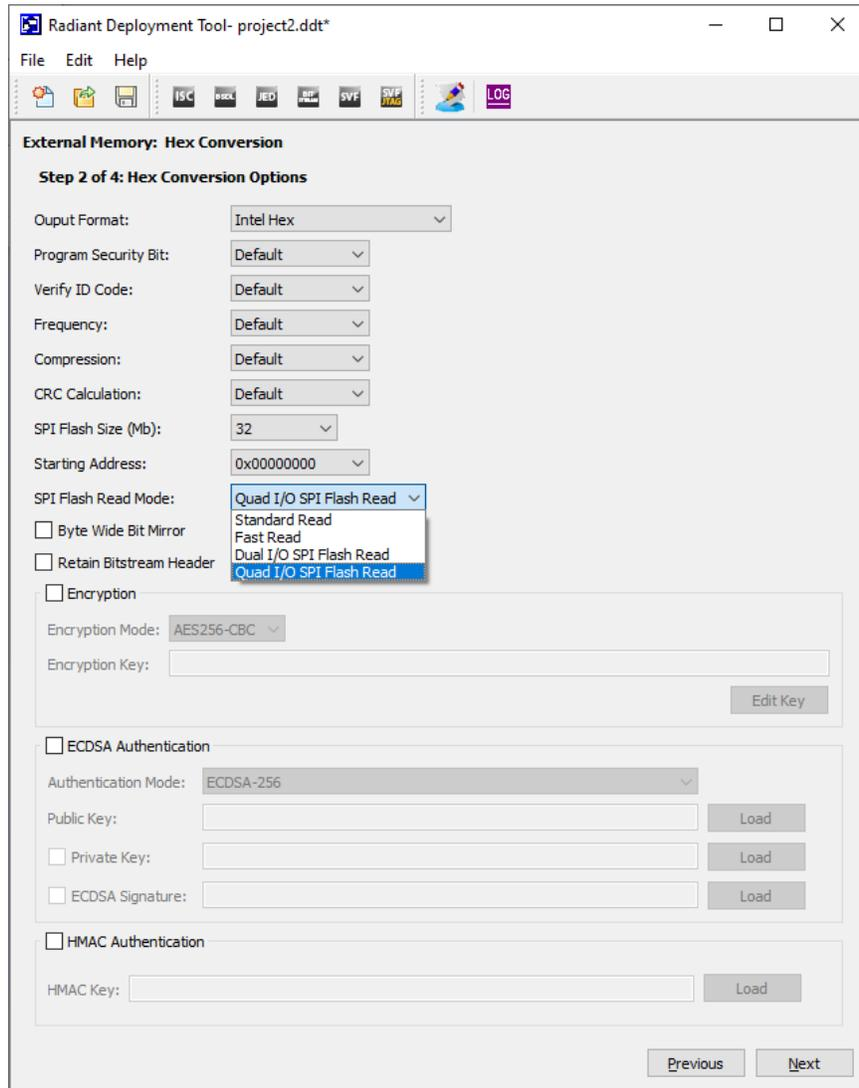

Figure 6.10. SPI Flash Settings
- 8. Set the SPI Flash Size (Mb) to match with the QSPI flash on the board. Set the SPI Flash Read Mode to the intended mode, for example **Quad I/O SPI Flash Read**. Leave other settings as default or set them according to your use case. Click **Next** to proceed. See Figure 6.10.